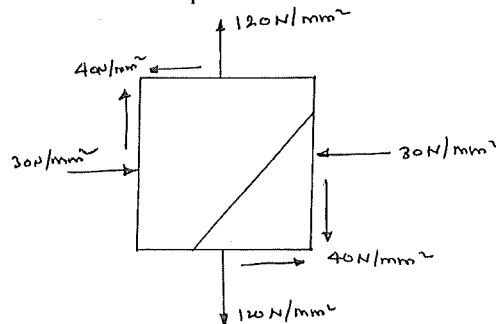

Fig.Q3(b)
- b. At a certain point in a strained material the stress condition shown in fig. Q3(b) exists. Find